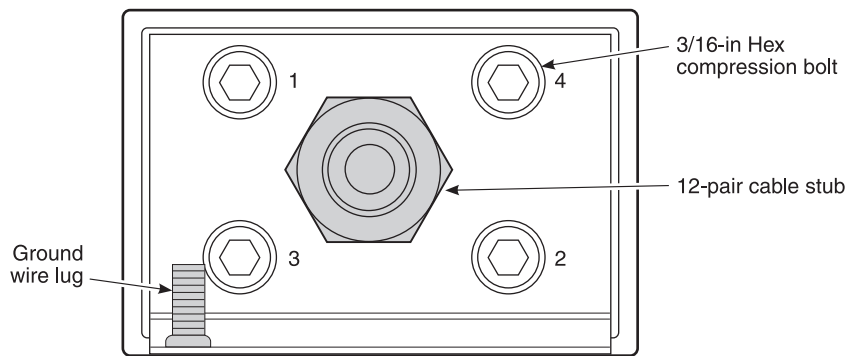

Figure 5. End Cap Compression Bolts
- 7 Torque the four compression bolts in the sequence shown in Figure 5 below. In addition, the four compression bolts must be torqued according to their specified torque levels and in the number sequence shown in Table 3.